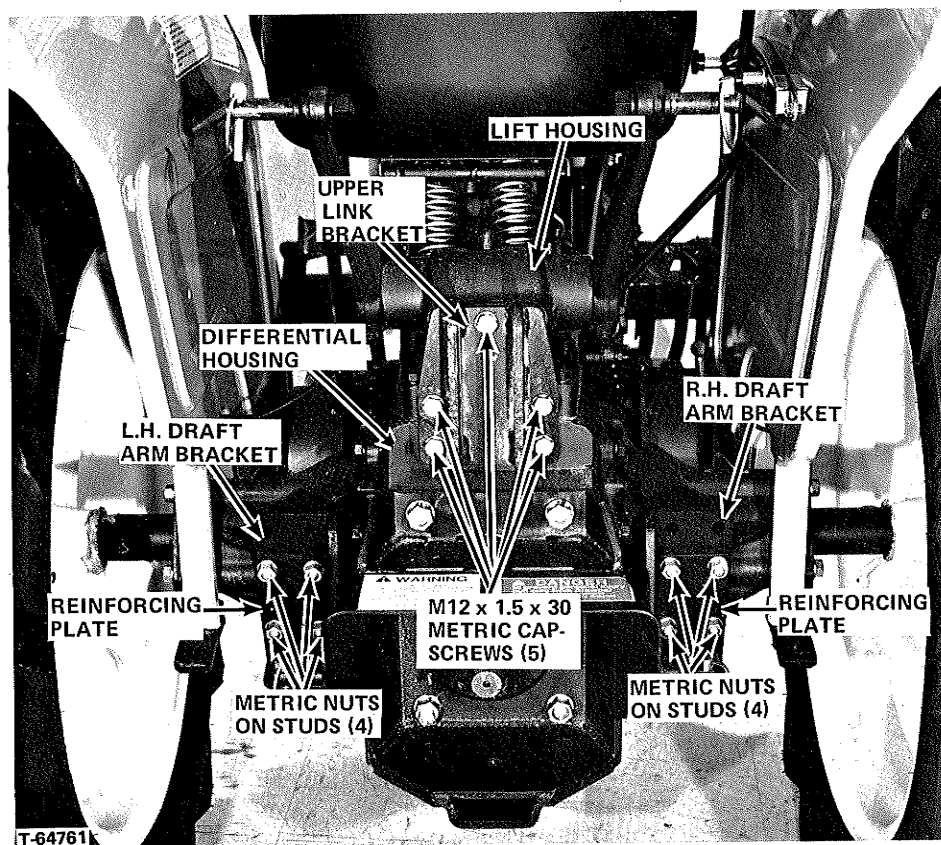

FIGURE 3
On Model 5020 and 9523 tractors the brackets at the lower ends of the protective frame assembly bolt directly to the L.H. and R.H. draft arm anchor brackets and the lower cross frame bolts between the rear surfaces of the differential housing and the lift housing and the front surface of the upper link bracket. See Figures 3 and 4. To install the frame on tractor:
2. Remove the five M12x1.5x 30 mm metric capscrews and lockwashers that hold the upper link bracket to the rear of the lift housing and the differential housing and remove the bracket. See Figure 3. Also remove the four metric nuts that hold the reinforcing plates to the R.H. and L.H. draft arm anchor brackets. Save the nuts and lockwashers but lay aside the reinforcing plates and the five metric capscrews for re-use if the protective frame is removed.